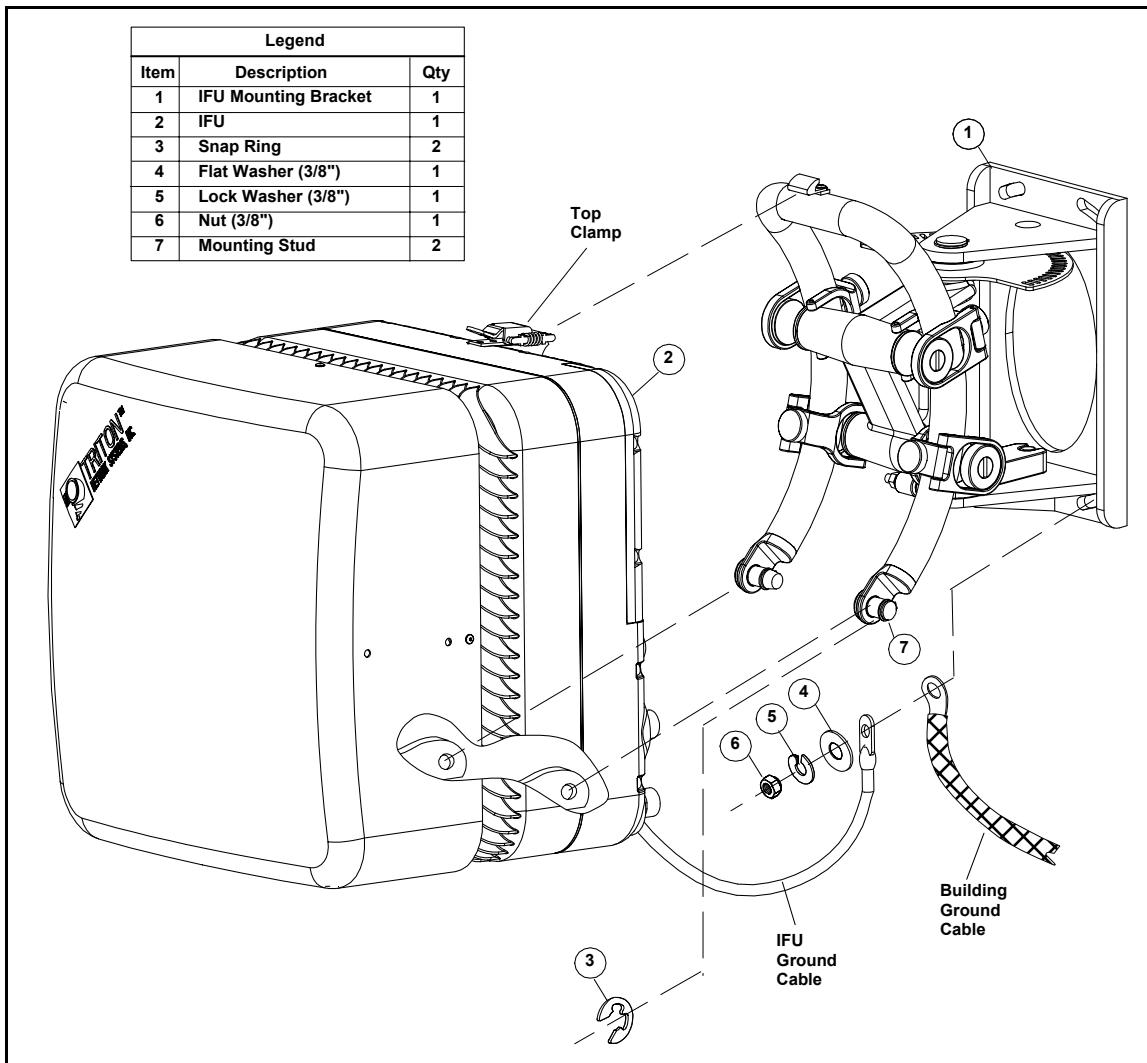

Figure 3-10. Mounting the IFU
IFUs are installed in the locations specified by each site drawing. A near-end IFU is the first installed IFU in a pair, and the far-end IFU is the second in the pair. Figure 3-10 provides a close-up view of an installed IFU. Installing an IFU is a two-part process that consists of the following:
- 2 Refer to Figure 3-10 and position the IFU (2) on the mounting studs (7) and engage the top clamp.
- 3 Install a snap ring (3) on each mounting stud (7).